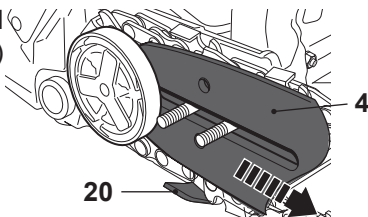

Fig. 7
- > Make sure the chain is placed above the chain catcher (20) (Fig. 7).
- > Pull the guide bar (4) carefully towards the right to pre-tighten the saw chain (3) (Fig. 7).